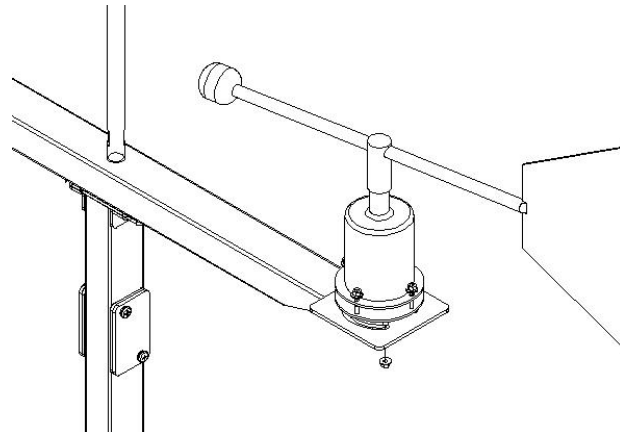

Fig 3-6 Mounting wind direction sensor
(1) Secure the wind direction sensor with M3X12 pan head screws on the right side of the horizontal supporting arm. Make sure that the cup is parallel with the ground, as shown in Figure 3-6.